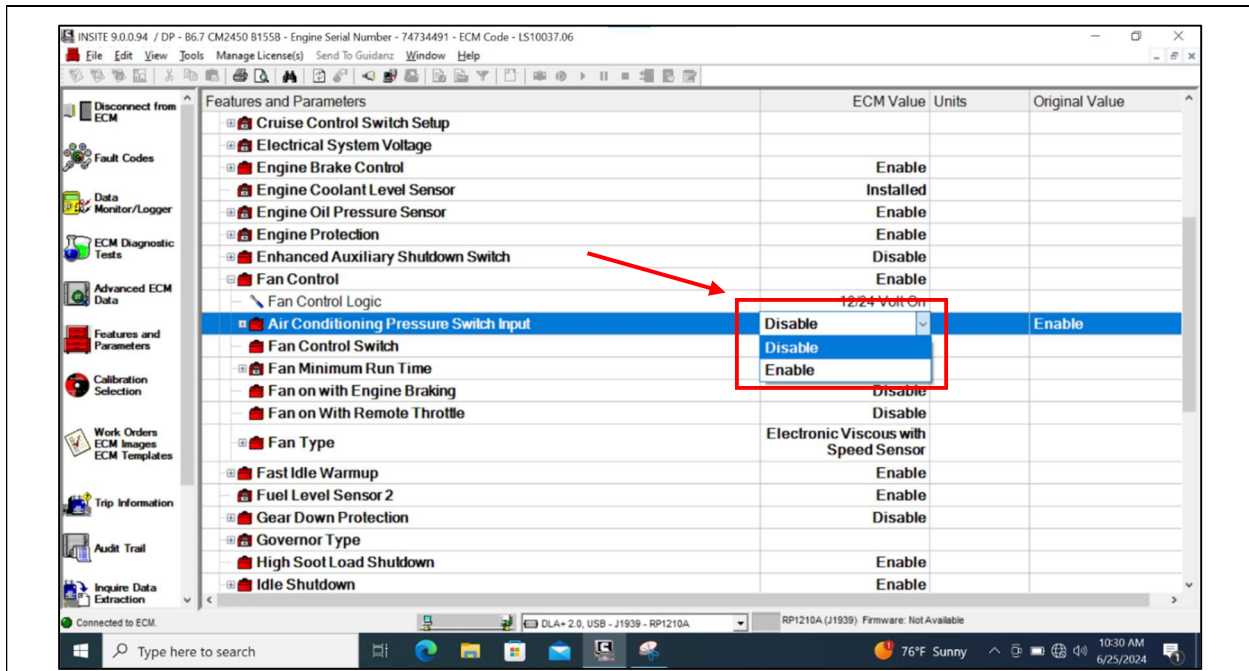

Figure 5
7. Select **Disable** for Air Conditioning Pressure Switch Input at the drop-down menu. (See Figure 5.)